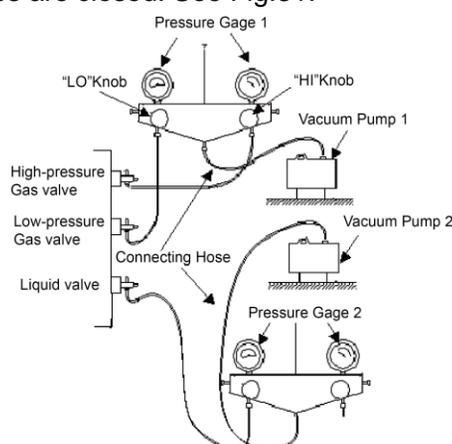

Fig.31
- (2) When there are more than 2 outdoor units, air purging from the nozzle located on the oil balance valve. Confirm outdoor oil balance valves are closed. See Fig.31.